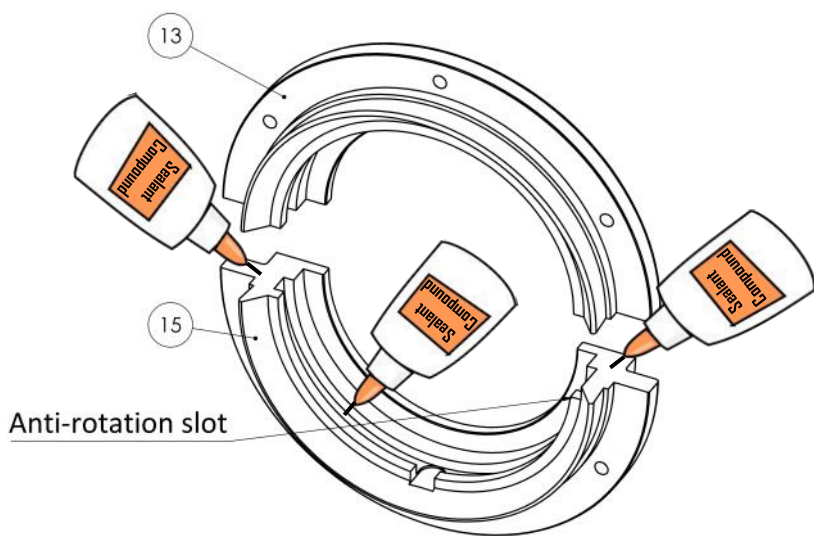

Fig. 39
- the split line and the exterior of the spring guide of the Seal Carrier (Fig. 39)